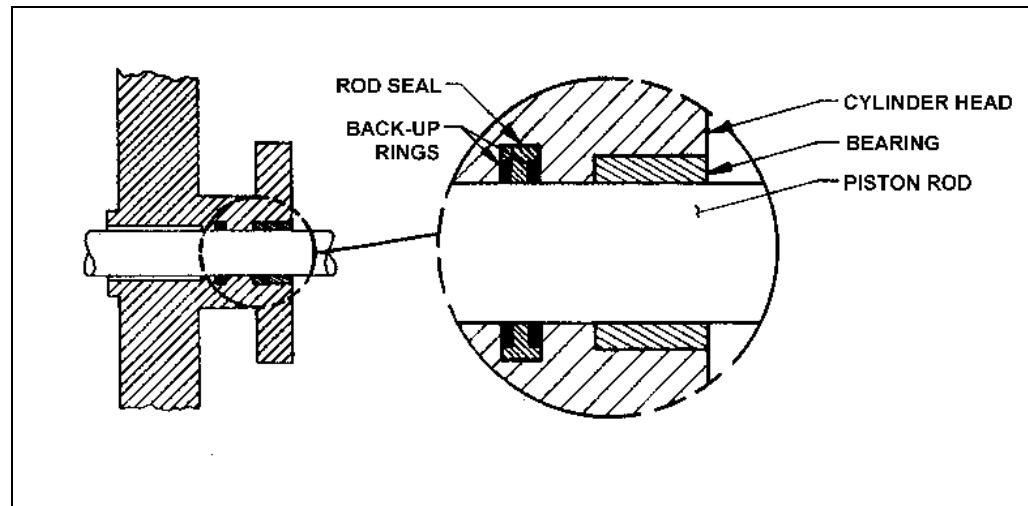

Figure 1 – Cylinder Component Identification
1. Lubricate the rod seal, then push it into place in the cylinder head as shown in Figure 1. The backup rings are cut with a bevel; be sure the ends match up and do not overlap.